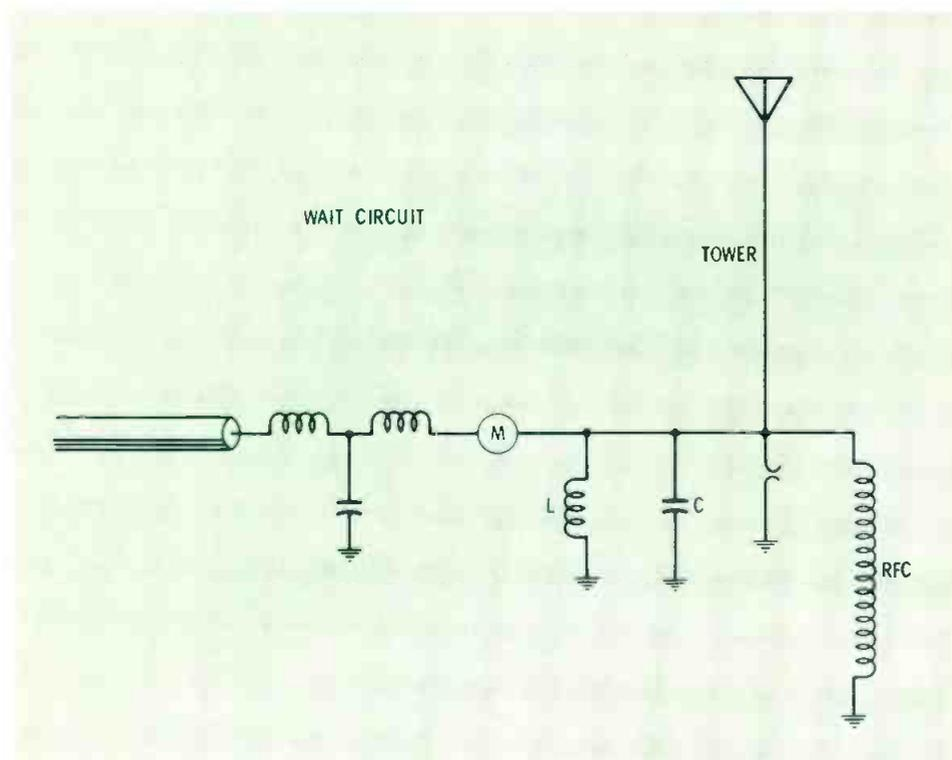

Fig. 5 The WAIT circuit. This arrangement offers a fast path to ground.
**Fig. 5** The Filtered Pulse Width Modulation (FPWM) system is said to be capable of providing multi-channel relay and transmission of programs, independent of frequency within 8 to 30,000 GHz.
Now any station operator knows you just don't go hang a 10  $\mu$ h coil across a 440 + j560 tower. If you did, the self resistance would be all wrong. This is solved by placing a capacitor in parallel with the 10  $\mu$ h coil. Some would call this a tank circuit, but it really isn't. What it is, is a circuit used to eliminate or cancel, the effect of the coil, at 820 KHz, but not the advantage of a fast static path to ground. In our example, we found a 0.004  $\mu$ fd capacitor was a good choice. We selected vacuum capacitors, because of the high branch current. Keep in mind that the current through the capacitor will be about the same as that through the coil. Figure 5 shows WAIT's circuit.